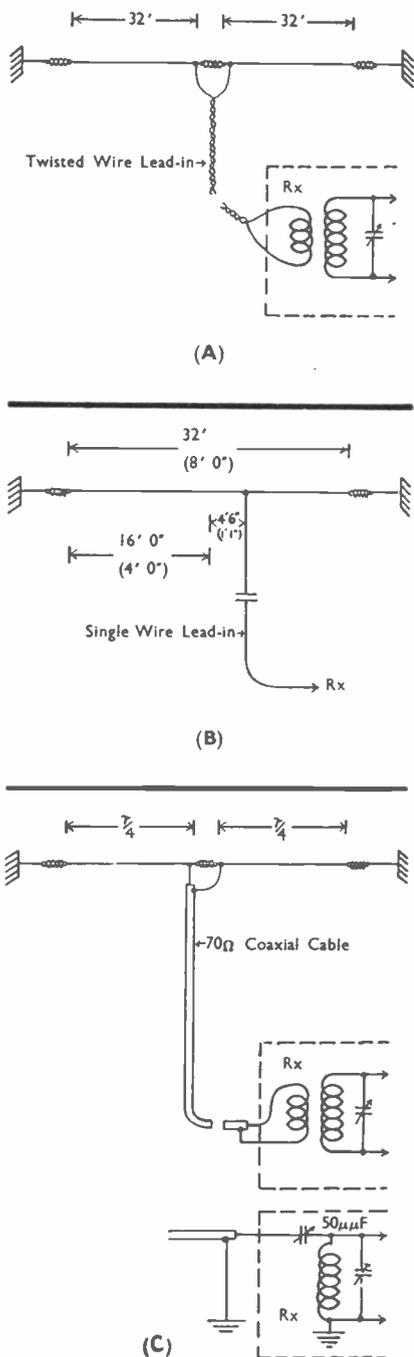

Fig. 5. Three aerial arrangements suitable for short wave reception.
The circuit given is for a mains-operated receiver, fed from a power pack of the type shown in Fig. 5 of last month's article. But a similar circuit could be used for battery operation by employing battery-type valves and a normal variable-mu circuit with 9-volt grid bias battery.
It is well worth while in all short-wave work to take advantage of the fact that special types of aerial system can be employed, and to take some care with regard to the method of coupling the aerial to the receiver input circuit. Perhaps the simplest and generally most effective is a dipole or doublet arrangement, but three suitable types of aerial are shown in Fig. 5; two of these are centre-fed dipoles or doublets.
length of the horizontal portion is one half-wavelength, but in practice a compromise has to be made when a range of frequencies is to be covered. While a twin feeder or lead-in is shown in Fig. 5 for the aerials marked (A) and (C), a single wire is used with the aerial system marked (B). It is generally better to use a twin-wire or co-axial lead-in, because this is "self-neutralised" and does not itself tend to act as a pick-up device.